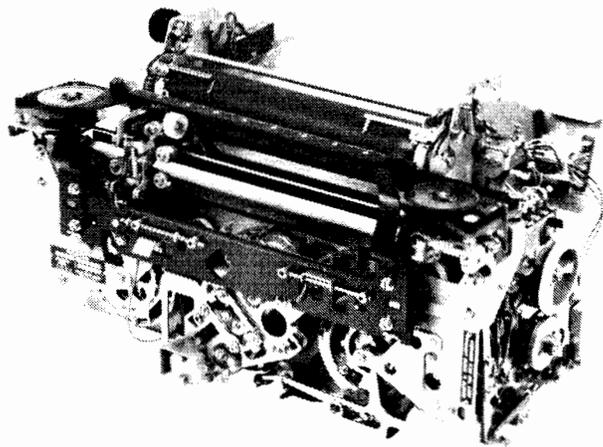

Figure 3 - 37 Typing Unit
2.04 The typing unit (Figure 3) receives information serially by means of a single magnet (two coils) type of selector. A function box is provided for character and character sequence recognition.